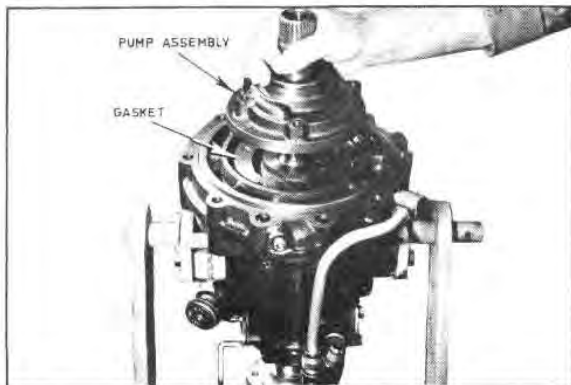

Fig. G16 — Removing the Pump Assembly
3. Remove the bolts that attach the pump assembly to the front adaptor. Lift the pump assembly over the input shaft (Figure G16) and remove the pump gasket from the adaptor face.